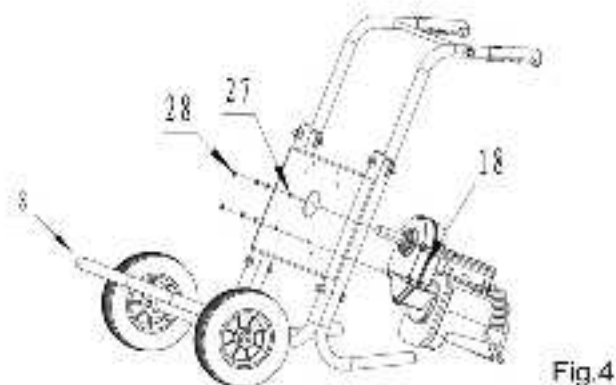

Fig.4
Locate motor and gearbox assembly (18) via the four studs through the chassis (8) using the washer (27) and nuts (28). TIGHTEN ALL FASTENERS. (Fig.4)